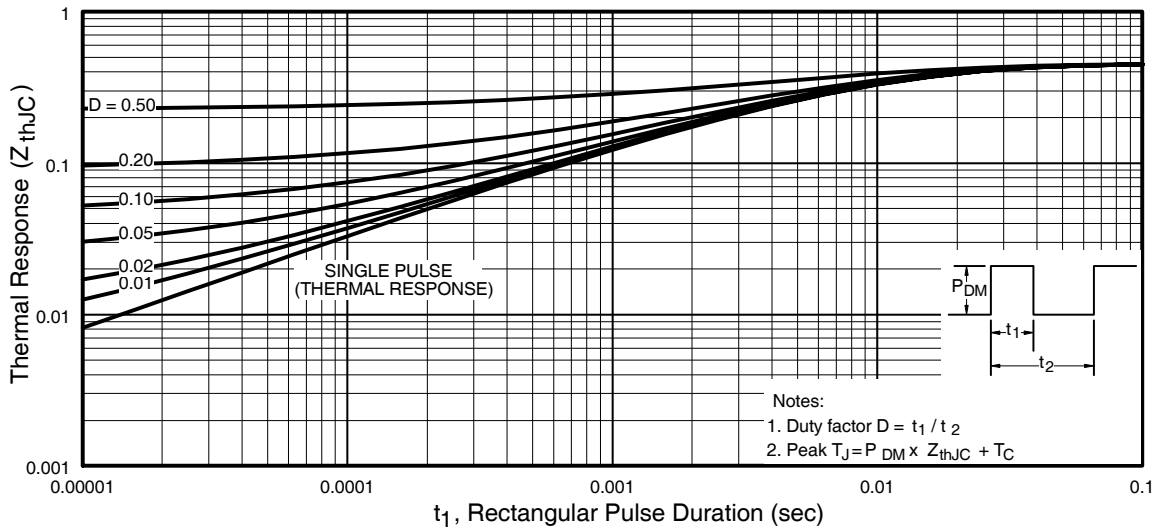

Fig 11. Maximum Effective Transient Thermal Impedance, Junction-to-Case
- ① Repetitive rating; pulse width limited by max. junction temperature. (See fig. 11).
- ② Starting $T_J = 25^\circ\text{C}, L = 0.11\text{mH}$
$Z_{thJC}(D, t_{av})$ = Transient thermal resistance, see figure 11)